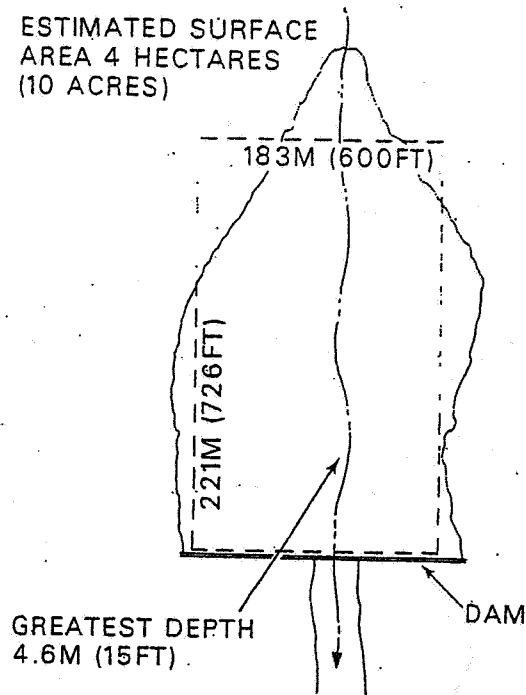

FIGURE 37. How to measure the surface of a small lake for estimating the amount of water stored.
- (1) Measure a rectangular shape that approximates the size of the lake (Figure 37).
- (2) Multiply the average width times the average length of the lake (Figure 37) and convert to hectares (acres).